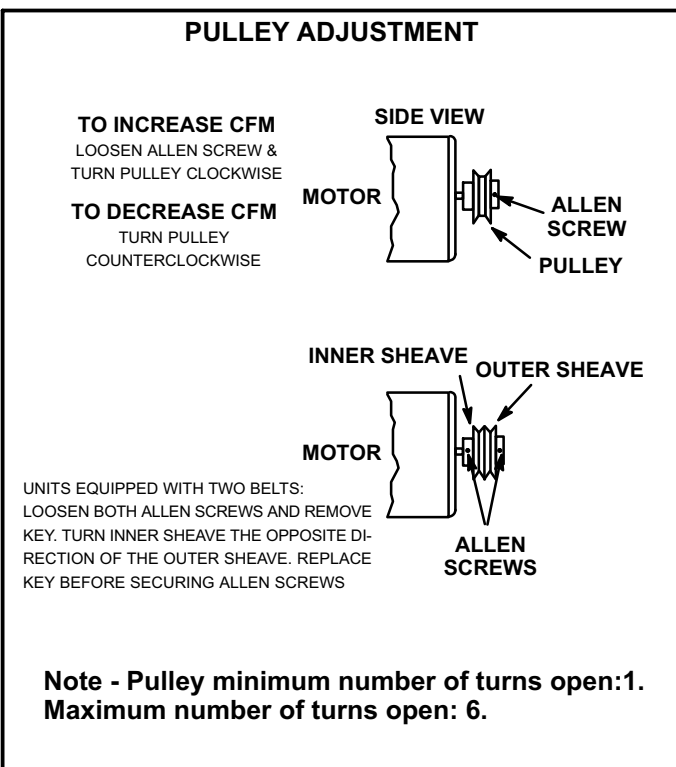

FIGURE 30
- 5- The blower RPM can be adjusted at the motor pulley. Loosen Allen screw and turn adjustable pulley clockwise to increase CFM. Turn counterclockwise to decrease CFM. See figure 30 and 25.